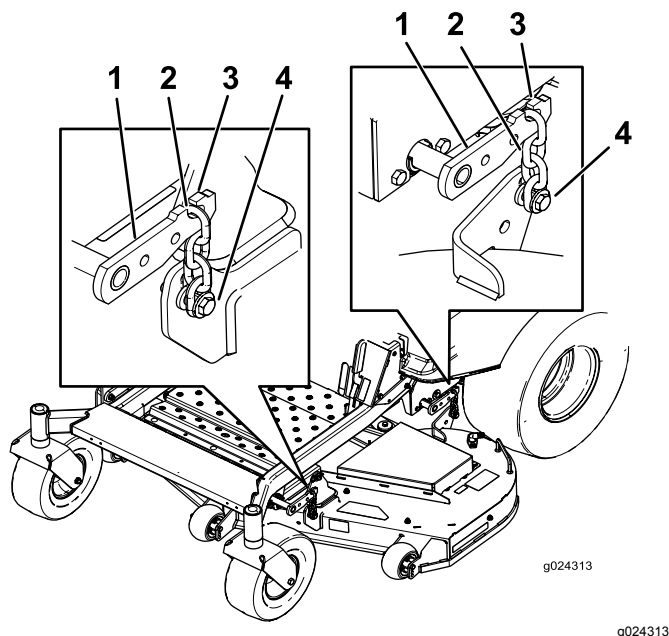

Figure 65
5. Loosen the adjustment bolts on all 4 corners so that the deck is sitting securely on all 4 blocks (Figure 65).
6. Ensure that there is tension on all 4 chains (Figure 65).
7. Tighten the 4 adjustment bolts (Figure 65).